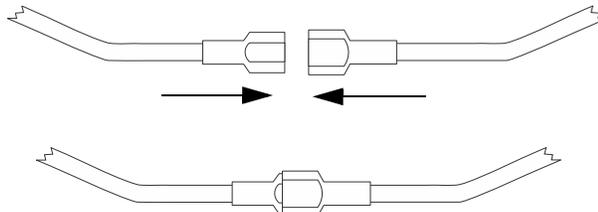

Figure 4.7 Splicing Control Panel Battery Cable to RBB Battery Cable Extenders
2. Connect the main control panel battery cables to the battery cable extenders as shown in Figure 4.7.